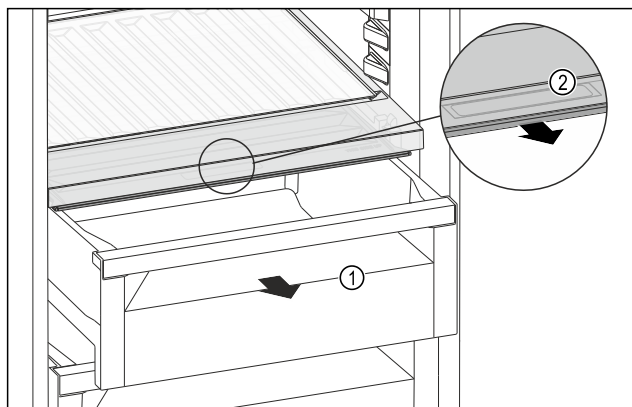

Fig. 156
- Pull out the drawer Fig. 156 (1).
- Grasp the recessed grip Fig. 156 (2) on the compartment lid and pull the compartment lid forwards at the same time.